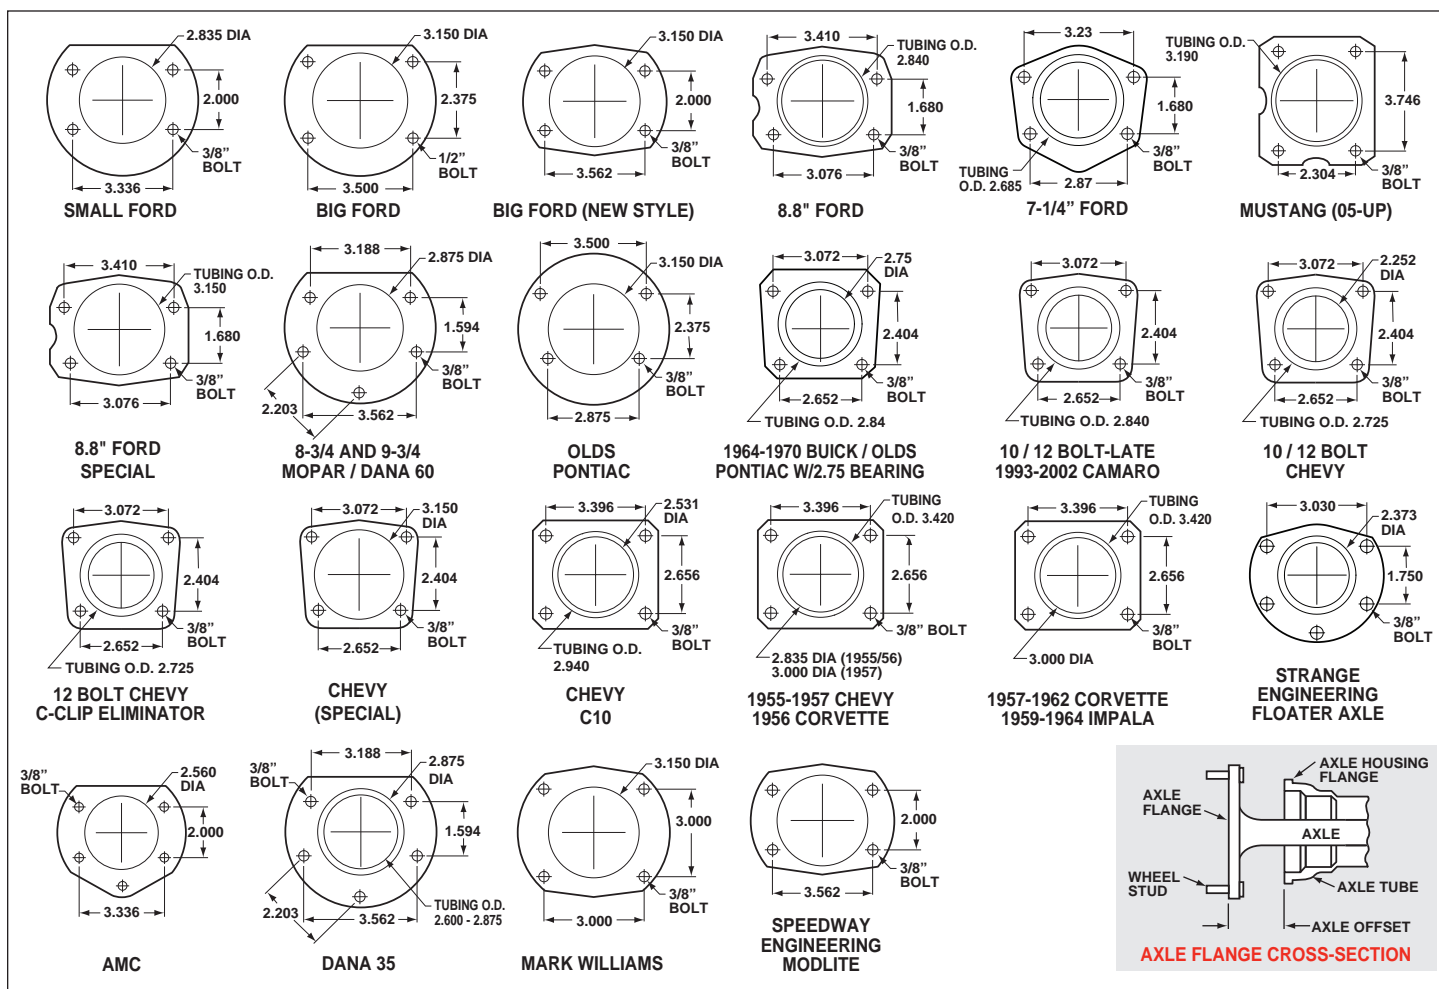

Figure 8. Rear Housing Flange Chart and Axle Flange / Offset Cross-Section
- Make sure this is the correct kit to fit the axle housing flange, not necessarily the rear end make. Many times after market manufacturers put a different make of axle housing flange on the stock rear end housing (see Figure 8). Example; Big Ford rear ends with Olds-Pontiac flanges, therefore, an Olds-Pontiac rear disc brake kit would be the correct kit to order.
- Dimension from wheel side of axle flange to wheel side of axle housing flange (see Figure 8, lower right hand corner). This dimension is critical to ensure proper alignment of the rotor to the caliper, and should match offset given in the kit description.
Assembly Instructions (numbers in parenthesis refer to the part list/diagram on the preceding page): **CAUTION:** All mounting bolts must fully engage insert nuts. Be sure to check that all bolts are either flush or protruding through flanged side of insert nut after shimming, Figure 8.